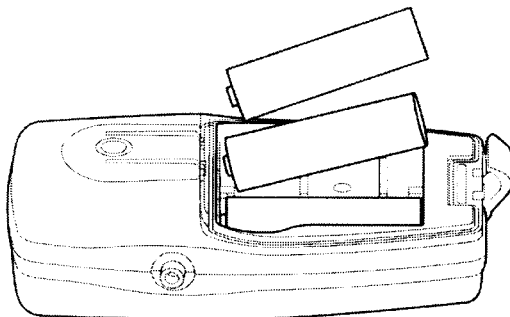

Figure 2-6: Installing Batteries
3. Install 3 "AA" alkaline batteries into the holder as shown in Figure 2-6. Each battery has its own slot. To insure proper polarity, place the bottom (flat) or negative end of the battery in the end of the holder marked "-". Place the top (button) or positive end of the battery in the end of the holder marked "+". Do this for each battery.